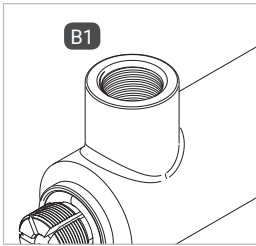

Figure 1
- ▶ Screw the 'B1' media inlet pressure-tight to the port for the media line (Figure 1).